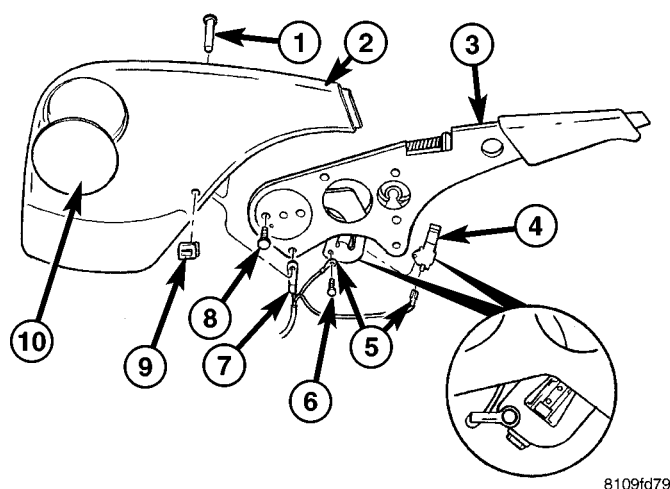

Fig. 35 HAND BRAKE LEVER
- (3) Remove the circle cover (Fig. 35).
- (4) Remove the bolts on the hand brake lever (Fig. 35).
- (5) Pull the cover off the hand brake lever (Fig. 35).
- (6) Disconnect the hand brake check switch and wiring harness from the hand brake lever (Fig. 35).
- (7) Remove the hand brake lever (Fig. 35).
- (1) Install the hand brake lever (Fig. 35).
- (2) Reconnect the hand brake check switch and the wiring harness to the hand brake lever (Fig. 35).
- (3) Install the cover to the hand brake lever (Fig. 35).
- (4) Install the bolts on the hand brake lever. Tighten to 25 N·m (221 in. lbs.) (Fig. 35).
- (5) Install the circle cover (Fig. 35).
- (6) Install the front brake cable to the hand brake lever.
- (7) Connect the front brake cable to the pulley unit (Fig. 35).